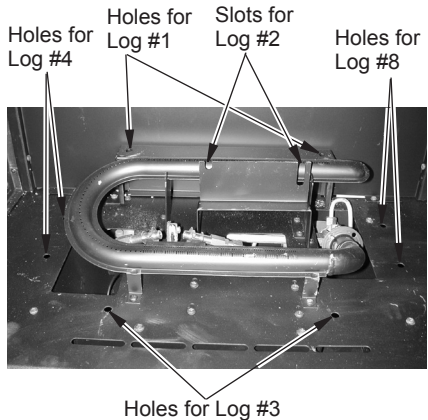

Figure 13 - Log Base and Chassis
2. Place pins on log #1 into holes in rear bracket as shown in Figures 13 and 14.
3. Place pins on log #2 into slots in middle bracket as shown in Figures 13 and 14.
4. Place pins on log #4 into holes to the left of the burner as shown in Figure 13, page 15, and Figure 15.
5. Place pins on log #8 into holes to the right of the burner as shown in Figure 13, page 15, and Figure 15.